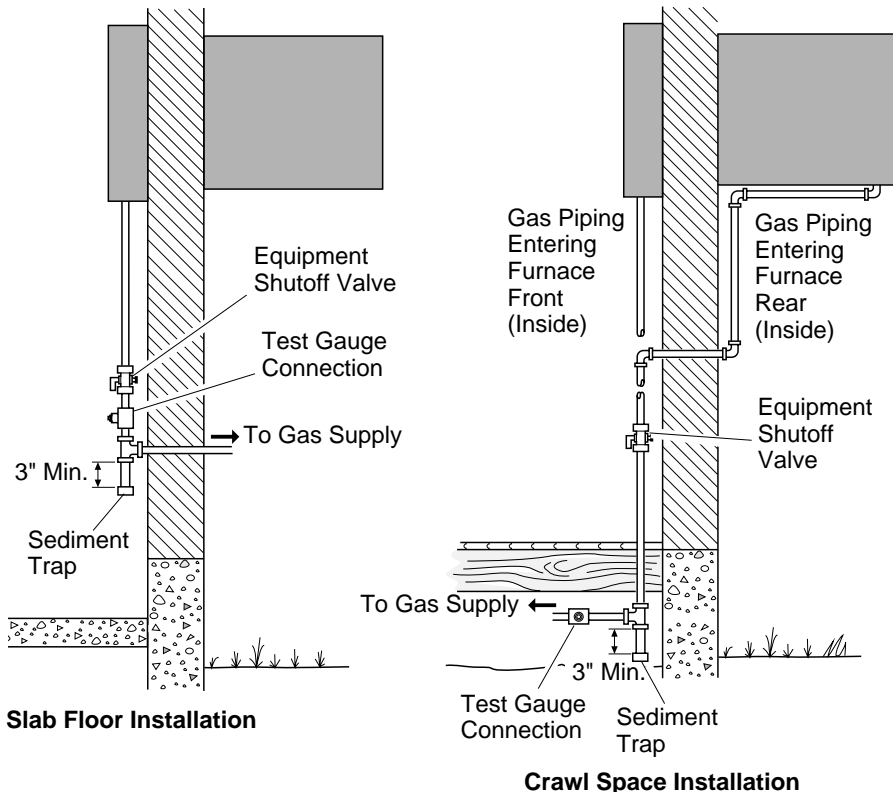

Figure 15 - Gas Connection
Installation must include an equipment shutoff valve (supplied), ground joint union, plugged 1/8" NPT tap, and a sediment trap. Locate NPT tap within reach for test gauge hook up. NPT tap must be upstream from furnace (see Figure 15).
Install sediment trap in supply line as shown in Figure 15. Locate sediment trap where it is within reach for cleaning. A sediment trap traps moisture and contaminants. This keeps them from going into furnace controls. If sediment trap is not installed or is installed wrong, furnace may not run properly.
**IMPORTANT:** Locate sediment trap where trapped matter will not freeze. Install sediment trap in a vertical run of pipe. If gas piping enters furnace from rear (outside), you must locate sediment trap in crawl space (see Figure 15). If you install furnace in structure with slab foundation, you must install gas piping to front of furnace (inside) (see Figure 15).